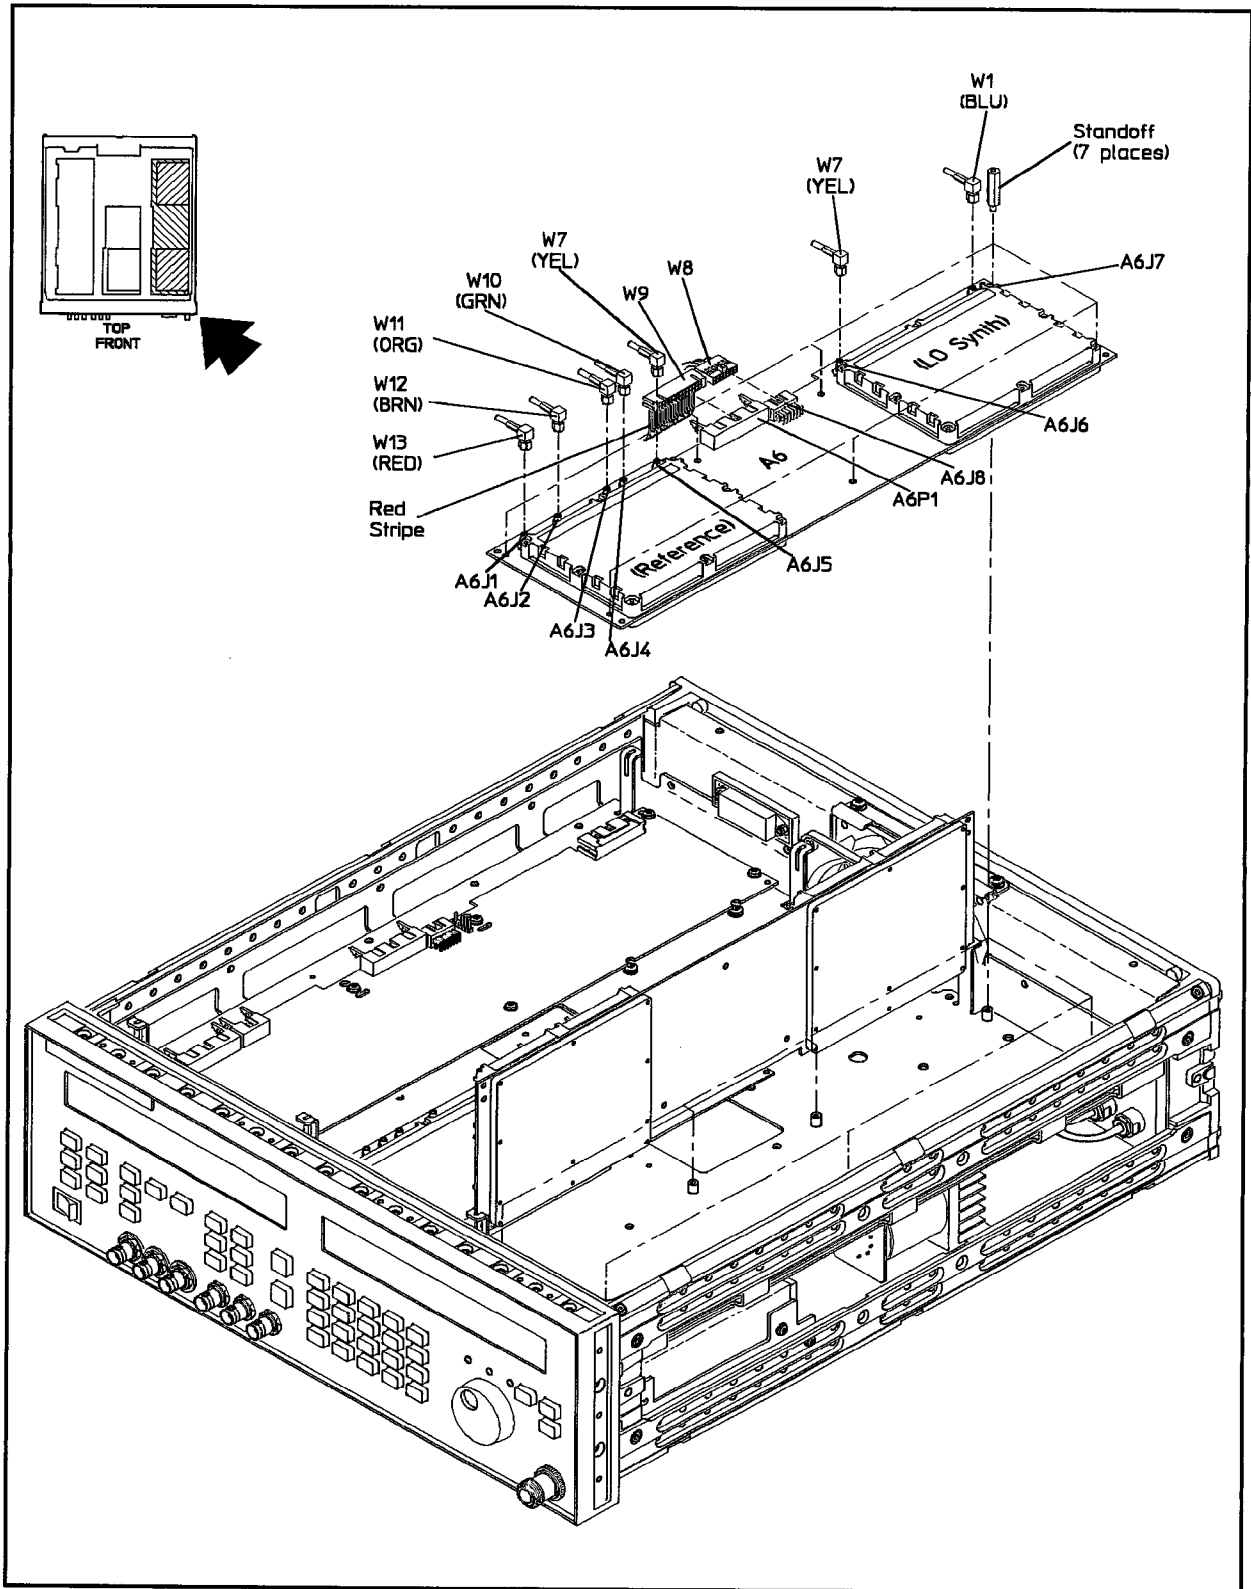

Figure 5-30. LO Synthesizer and Reference Board Removal
1. In the introduction to this chapter, refer to “Multi-wire Cables” and Figure 5-30. Then, disconnect the following cables:
2. Refer to “Flexible Coaxial Cables” and Figure 5-30. Then, disconnect the following cables using a 15/64 in end wrench: